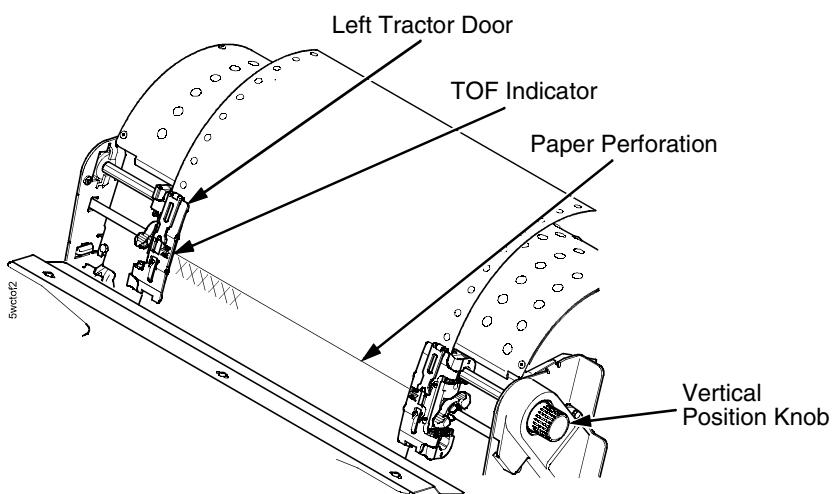

Figure 52. TOF Indicator
2. Locate the TOF indicator. It is the small tab located on the left tractor door. See Figure 52.
3. Turn the vertical position knob up or down to align the top of the first print line with the TOF indicator. See Figure 52.